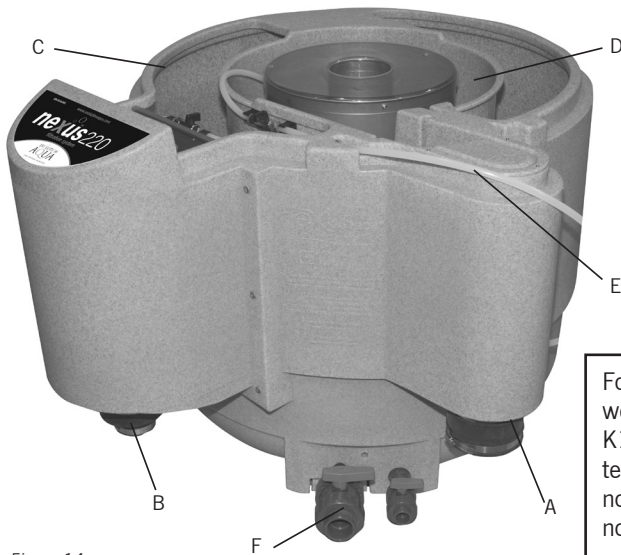

Figure 14.
1. Connect the pipework from your pond to the EazyConnector on the Nexus Inlet (A).
2. Connect your water pump to the 4"- 2" EazyConnector (B) on the outlet using suitable pipe work. A valve should be positioned between the pump and the Nexus, to isolate the Nexus during cleaning.
3. Pour the 50L K1 Media bag into the outside chamber (C) of the Nexus (Figure 14).
4. Connect your air pump to the Nexus air inlet (E).
6. Connect the waste valves (F) to your waste outlet.